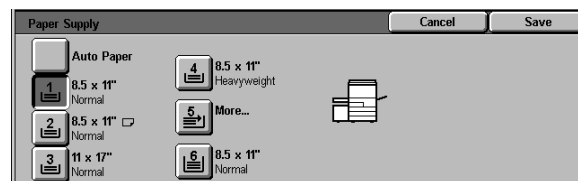

Figure 25: Paper Supply screen
- 1 On the Basic Copying tab under Paper Supply, touch the **More...** button to display the Paper Supply screen, Figure 25.